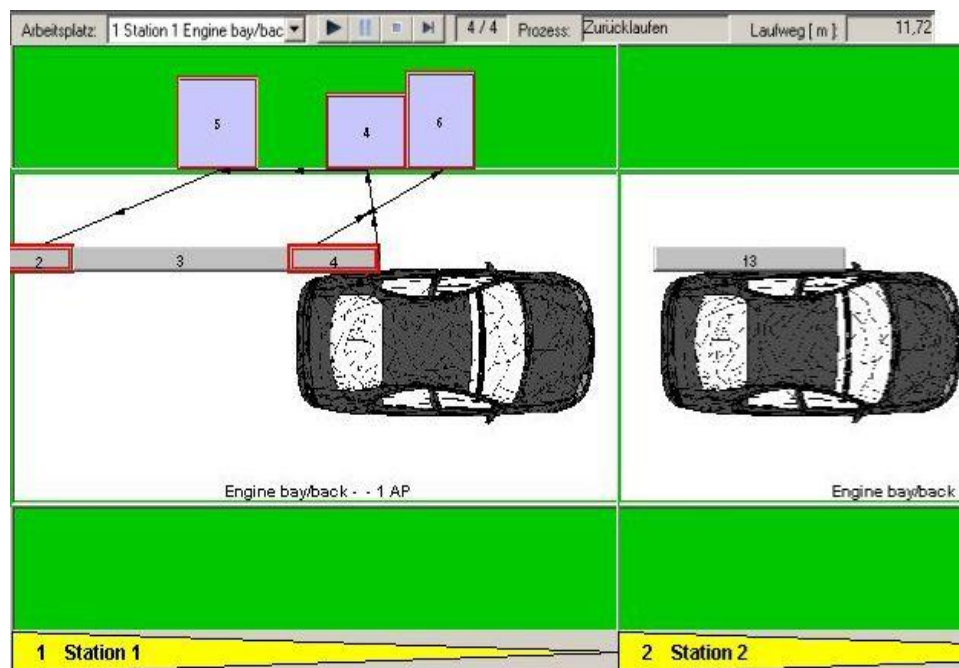

Figure 259: Example for Simulating or Showing Walkways
- An employee fetches the needed parts for each process in work from the parts bin separately. Please refer to the Figure 259.